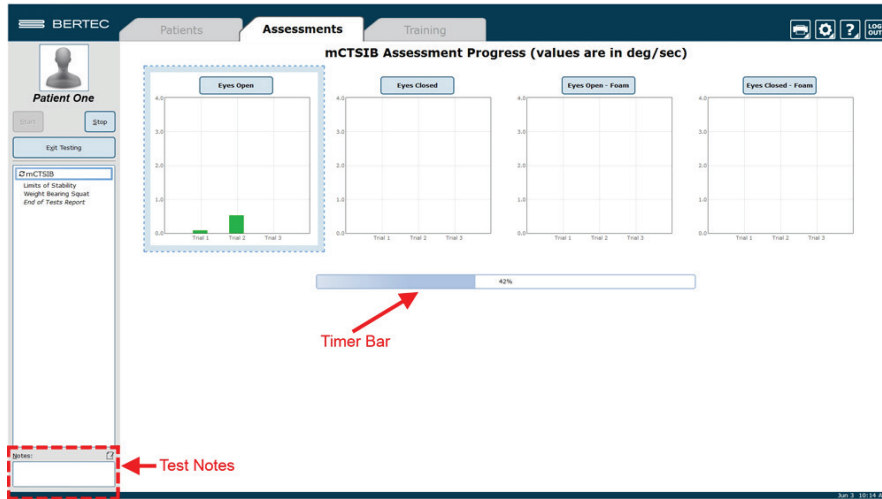

Figure 19: Example Clinician Screen During Assessment.
5. Perform the assessments as directed on the computer screen. At any point during an assessment, the clinician may input notes by clicking in the Test Notes area, located on the bottom left corner of the screen. Figure 19 shows this screen.